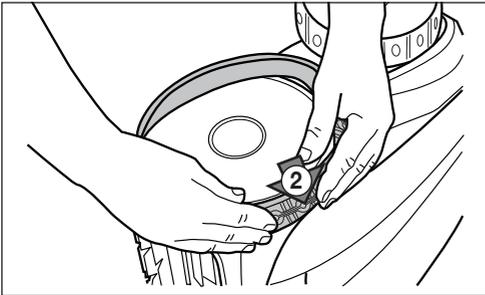

Figure 26. Start on One Side of the Tyre
4. Push one side of the tyre on to the wheel and fit the rib of the tyre in the groove of the wheel. See Figure 26.